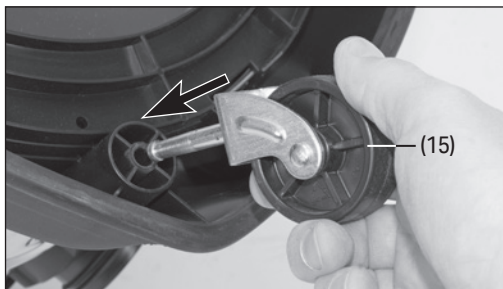

Fig. 4
7.3 Fitting the Castors (Fig. 4)